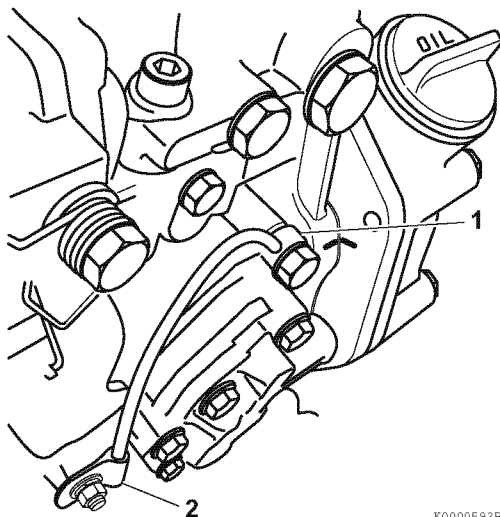

Figure 7-28
7. Reconnect the lube oil line (**Figure 7-28, (1)**) and clamp (**Figure 7-28, (2)**).